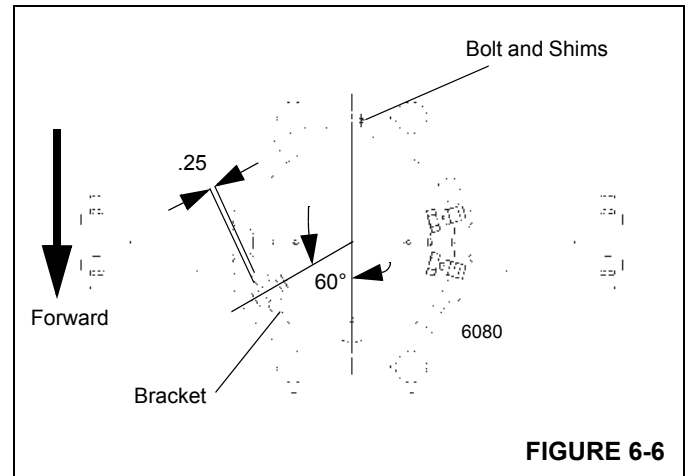

FIGURE 6-6
3. Ensure the threaded hole on the bottom of the electrical swivel base is aligned with the mounting hole in the bracket on the water swivel case. Install the bolt through the hole in the bracket and install the nut. Screw the bolt into the hole in the electrical swivel base until the bolt head is approximately 0.25 in (6.4 mm) from the bracket. Tighten the nut against the electrical swivel (Figure 6-6).